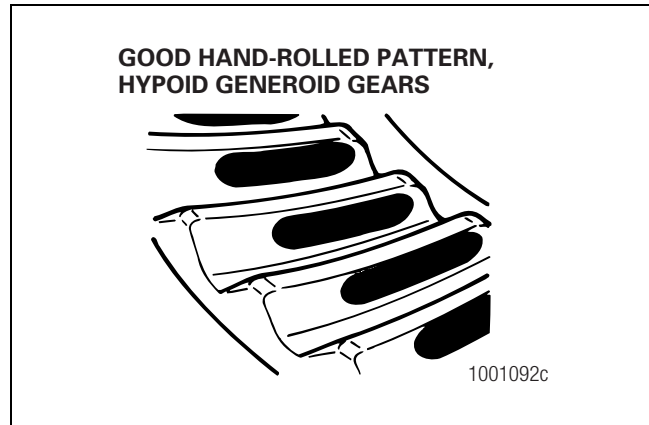
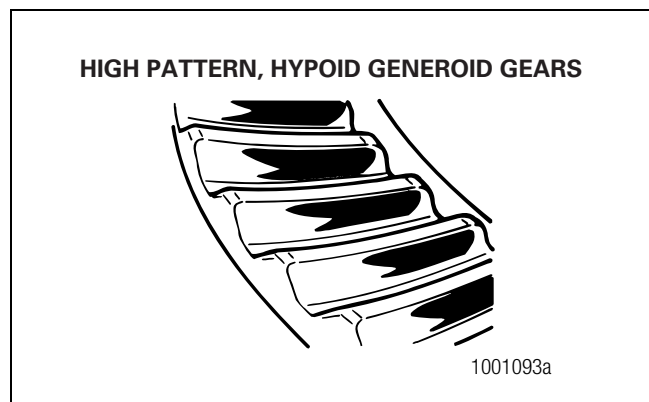
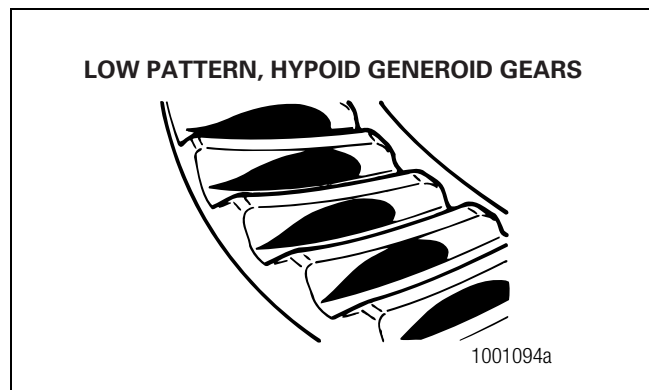

Figure 5.65
Figure 5.66
Figure 5.67
4. Look at the contact patterns on the ring gear teeth. Compare the patterns to Figure 5.65, Figure 5.66 and Figure 5.67.
The location of good hand-rolled contact patterns for new conventional and generoid gear sets is toward the toe of the gear tooth and in the center between the top and bottom of the tooth. Figure 5.65.